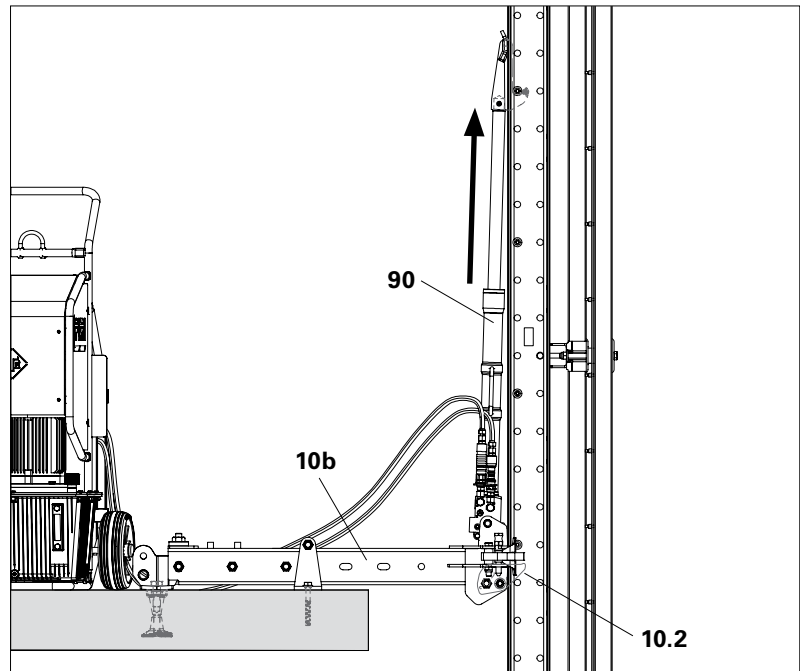

Fig. D5.05
2. Climbing pawl (10.2) in the Slab Shoe is pressed inwards by the Spacer when climbing past, then unfolded again by means of the spring force (audible click). (Fig. D5.05)